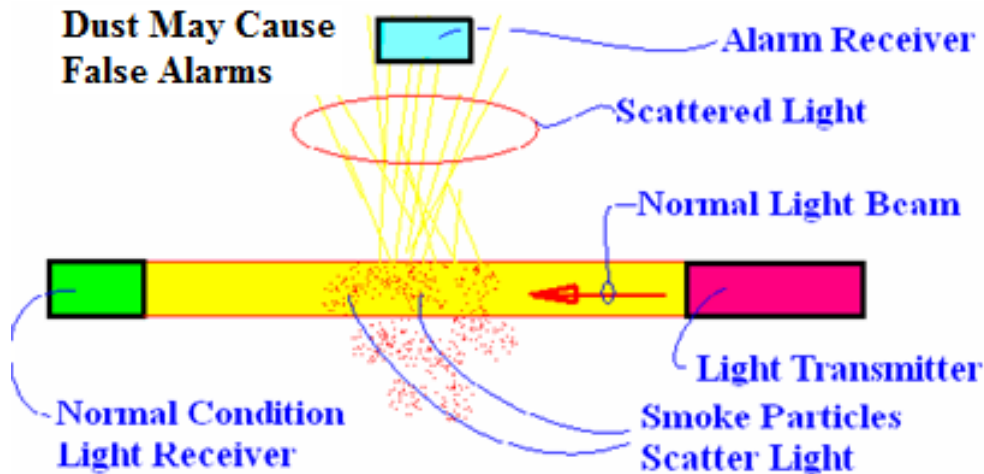

Figure 38: Photoelectric type of smoke detector is dependent on reflective particles of combustion entering the sensed area within the detector
- Photoelectric (see Figure 38)